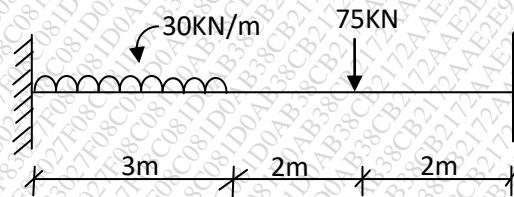

Figure 3
- Q.3 Analyze the beam as shown in figure 3 and draw BMD. 15